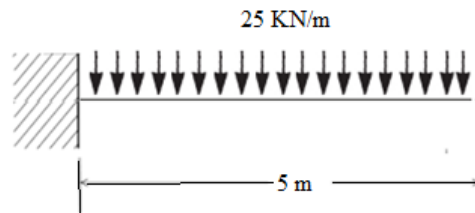

Figure 2
- 15 Determine the deflection at the tip of the cantilever for the beam shown in fig2.